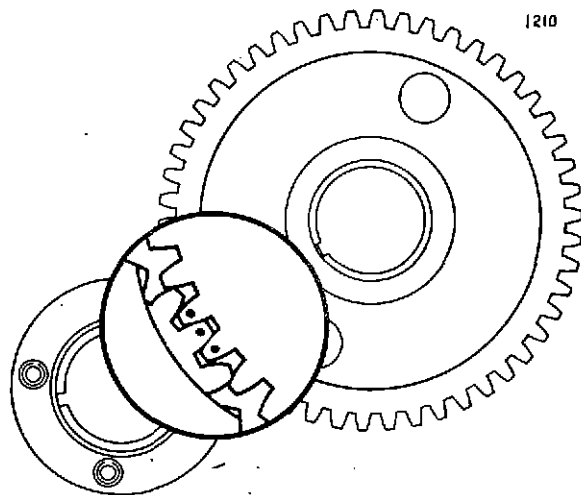

Fig. 9
42. To replace camshaft and time engine (Fig. 9)